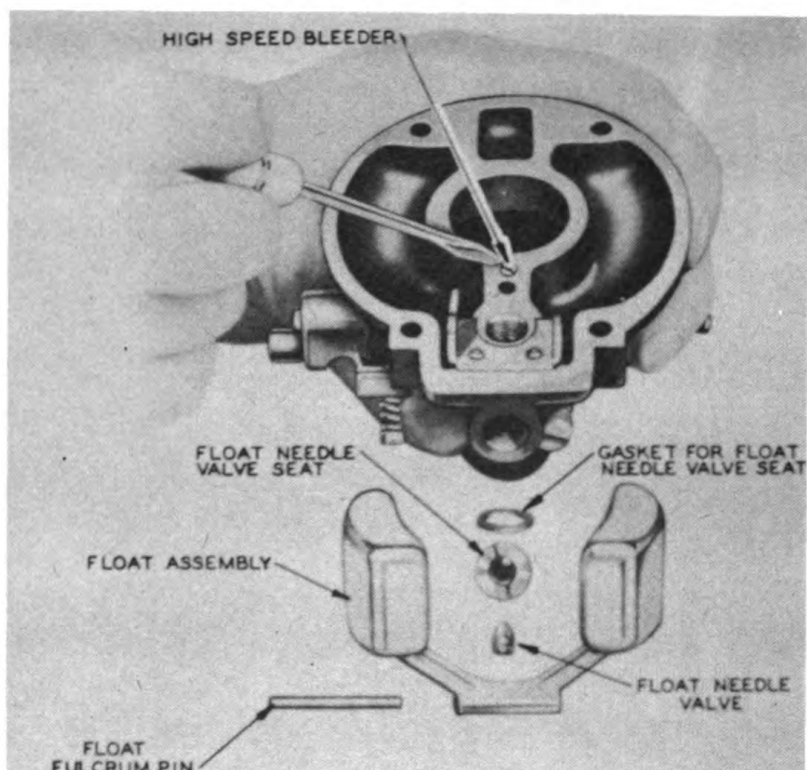

Fig. 92
3. Remove float fulcrum pin by pressing a screw driver against the pin at the slotted side of the float hanger and force pin through hanger. Remove float and needle valve. Remove needle valve seat and gasket. Remove high speed bleeder from throttle valve body using a small screw driver. (Fig. 92).